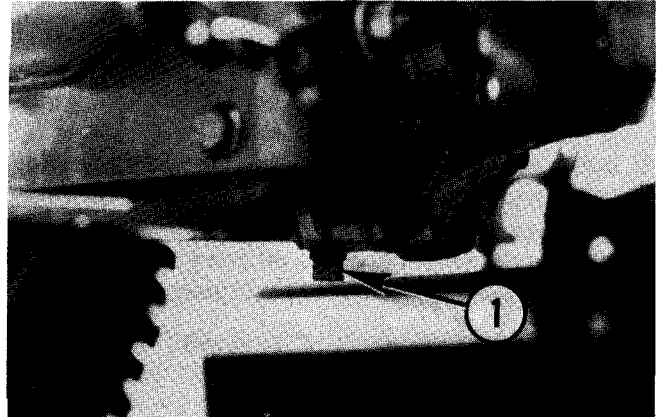

Fig. 19 — Transmission Lubrication
1. Operate Tractor until oil is warm, remove drain plug, No. 1, Fig. 19, and drain oil.